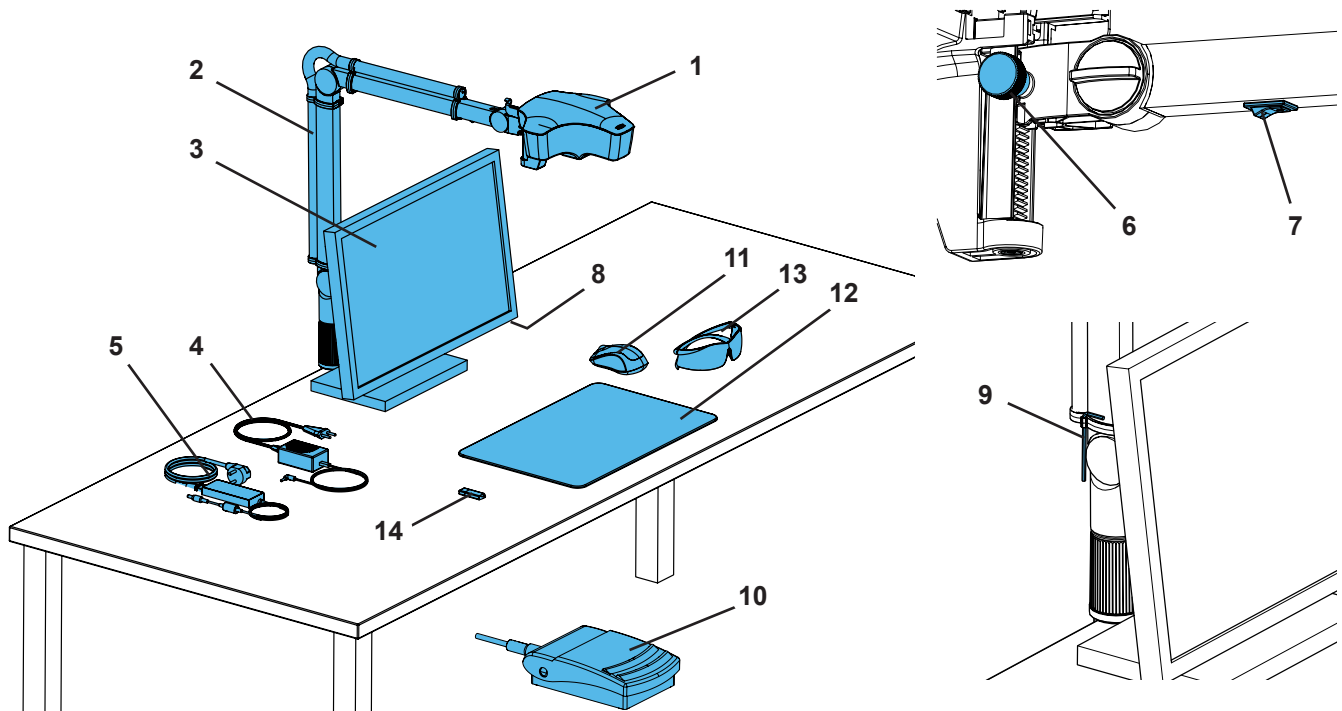

Fig. 1
- ⇒ Place the desk pad (12, Fig. 1) on the work table.
- ⇒ Place the mouse (11, Fig. 1) next to the desk pad..
- ⇒ Place the foot switch (Fig. 1) under the table and insert the cable for the foot switch into the foot switch
- Fasten the screw at the head (32).
- Middle clamping screw (33).
- Clamp screw on base part (34).
- Clamping screw (35) with the included tool (9, Fig. 1).
- Clamping screw (36) with the included tool (9, Fig. 1).